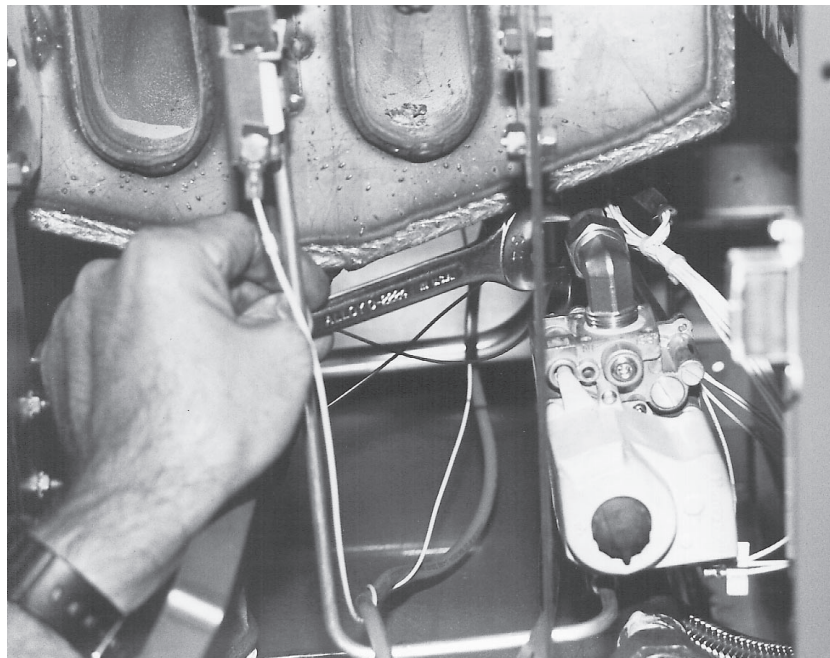

Fig. 42
3. With a $\frac{3}{4}$ " wrench, remove the gas line compression elbow fitting. (Fig. 42)